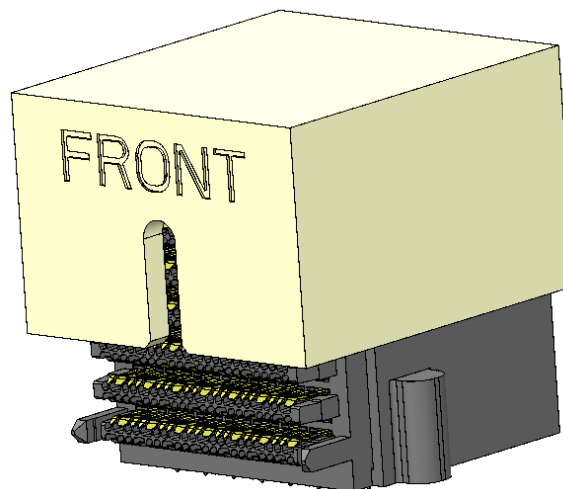

Figure 37: Placing Insertion Tool on Top of RAOH Connector
- Begin by placing insertion tool specified in table 12 over the top of the RAOH connector as shown in figure 37. The same tool is used for both guided and non-guided assemblies.